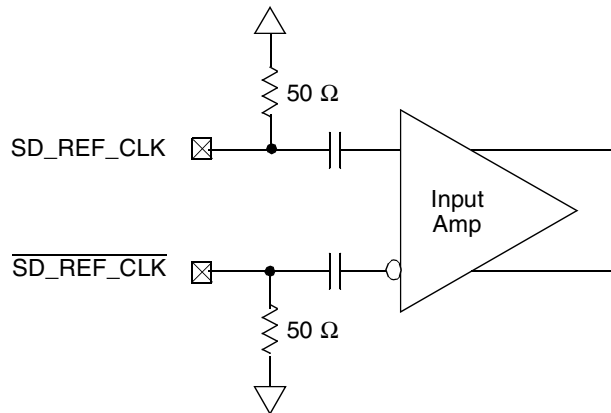

Figure 39. Receiver of SerDes Reference Clocks
Figure 39 shows a receiver reference diagram of the SerDes reference clocks.
- The `SD_REF_CLK` and `SD_REF_CLK` are internally AC-coupled differential inputs as shown in Figure 39. Each differential clock input (`SD_REF_CLK` or `SD_REF_CLK`) has a 50- Ω termination to XCOREVSS followed by on-chip AC-coupling.